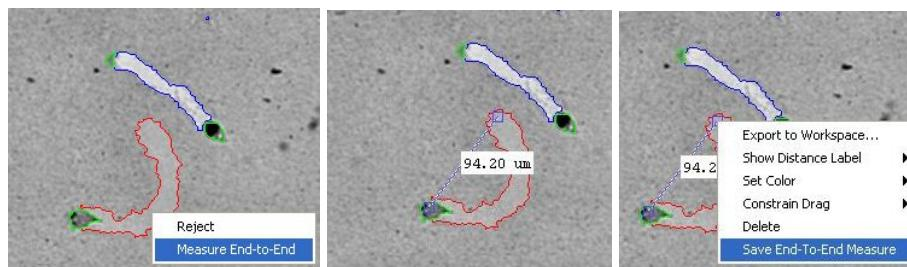

Figure 9: Measuring End to End
**Reject / Accept single track:** Right click on the track, a context-menu will open (see Figure 9), that will allow you to accept or reject the track (based on its current status). Select the required option to accept/reject the track. The track will change its color, but note that this may take some time in case of a whole well, so be patient.